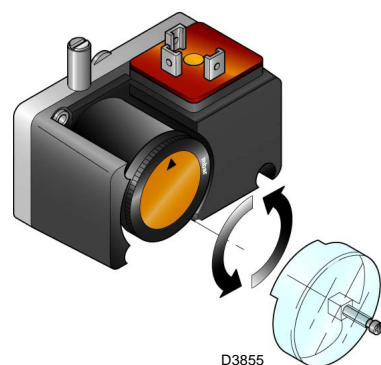

Fig. 37
- Adjust the minimum gas pressure switch (Fig. 37) to the start of the scale.
Adjust the minimum gas pressure switch after performing all the other burner adjustments with the pressure switch set to the start of the scale (Fig. 37).